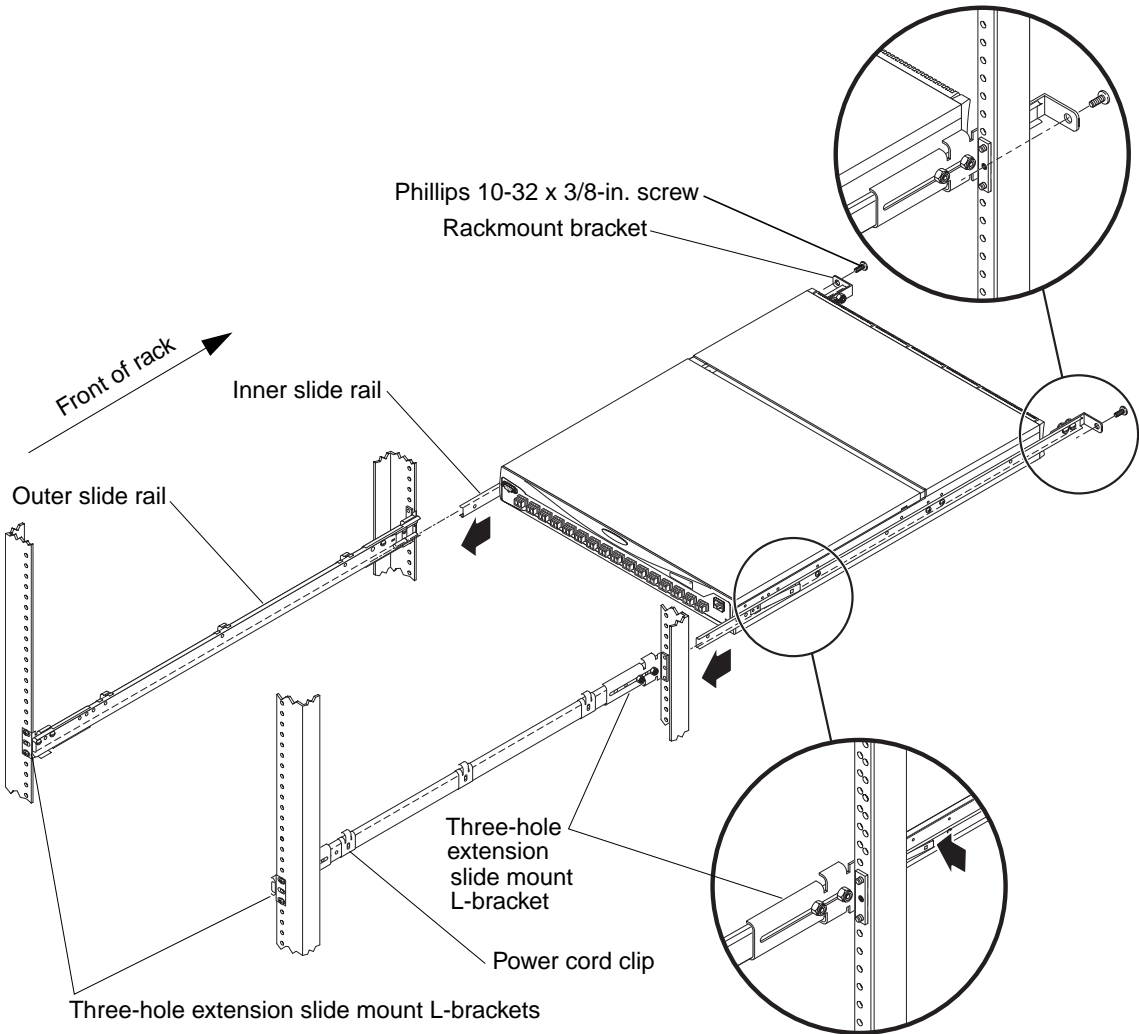

FIGURE 2-2 Brocade Silksworm 3800 Switch and Outer Slide Rail Installation
- a. See FIGURE 2-2. Use two of the slotted head 8-32 x 3/8-inch screws per L-bracket, with the screw heads on the inside of the slide rails and a lock nut on the end of each screw.
- b. Position the outer slide rail in the rack and adjust the L-brackets to accommodate the depth of the cabinet. Refer to FIGURE 2-2.
To allow the 3800 switch to slide out the front of the rack, orient the rail as shown in FIGURE 2-2, with the closed end of the slide rail towards the back of the rack.
- d. Attach the L-bracket on the front end of the outer slide rail to the corresponding rack vertical rail, using two of the Phillips 10-32 x 3/8-inch screws. See FIGURE 2-2.
- a. Position the 3800 switch next to the rack as shown in FIGURE 2-2, and insert the inner slide rails into the outer slide rails.
2. Attach the rackmount brackets to the vertical rack rails using one Phillips 10-32 x 3/8-inch screw per bracket, tightening the screws to a torque of 25 inch-pounds (28.8 cm-kgs). See FIGURE 2-2.
- a. Place the power cord clips on the outer slide rails. See FIGURE 2-2.